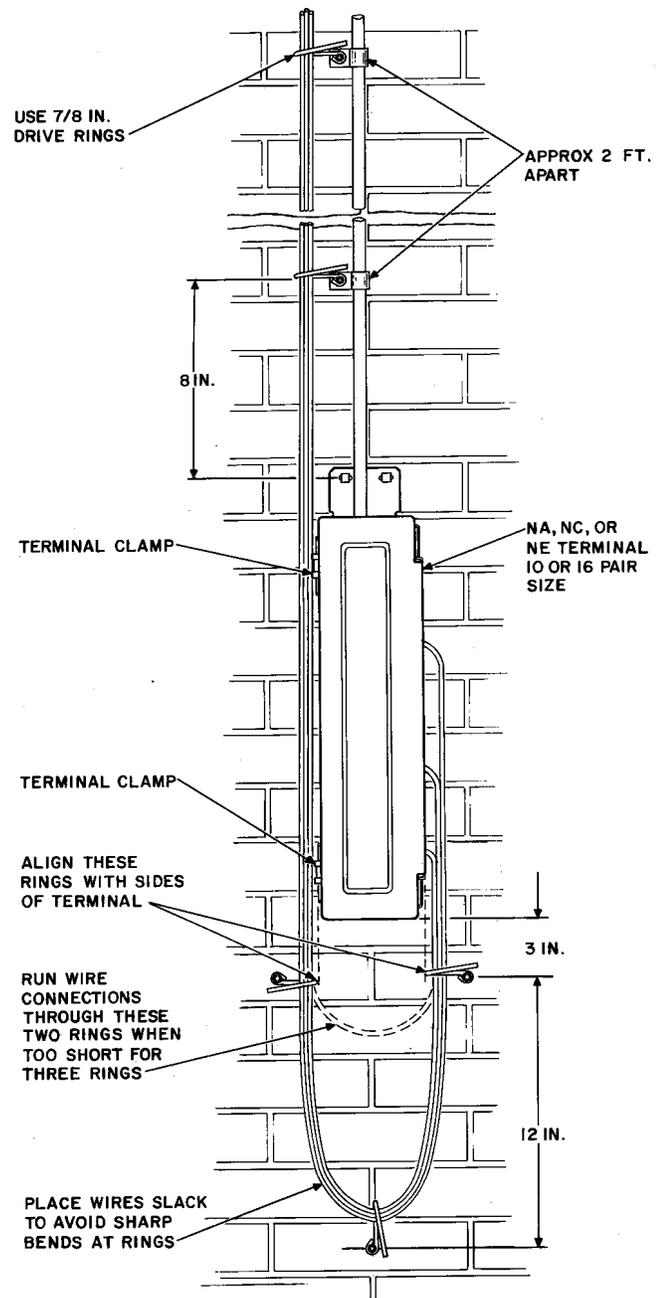

Fig. 9—Wall Mounted 10- or 16-Pair Terminal With Stub at Top
2.10 Refer to Fig. 9, 10, and 11 for arranging drop and block wires at wall-mounted terminals.